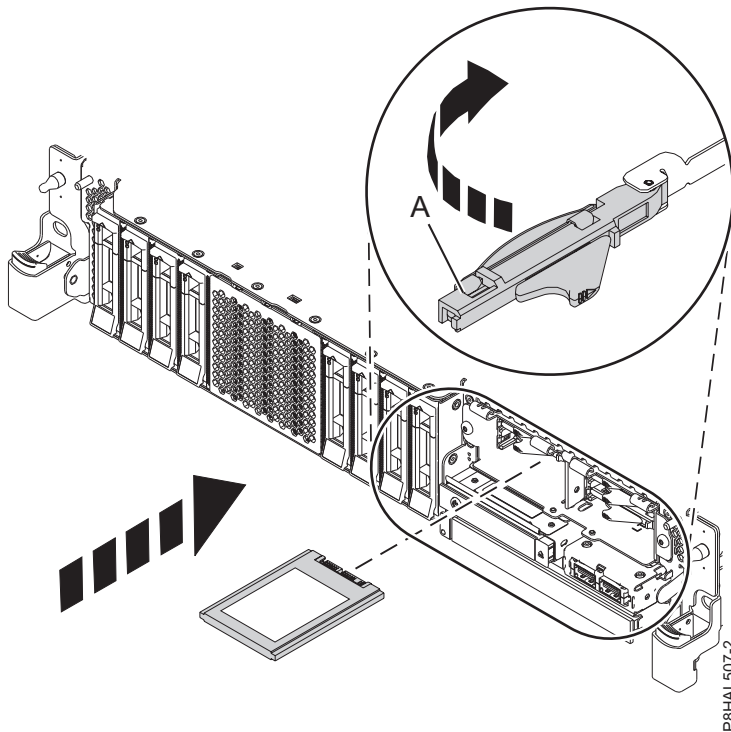

Figure 26. Installing an SSD in an expanded function system
16. With the SSD drive bay handle (A) in the unlocked position, pull the lever outward to gain access to the guide rails in the SSD slot. Support the bottom of the SSD as you align it with the guide rails in the SSD slot. See Figure 26 on page 28.
21. Lock the drive by rotating the bay handle (A) in the direction that is shown in Figure 26 on page 28.